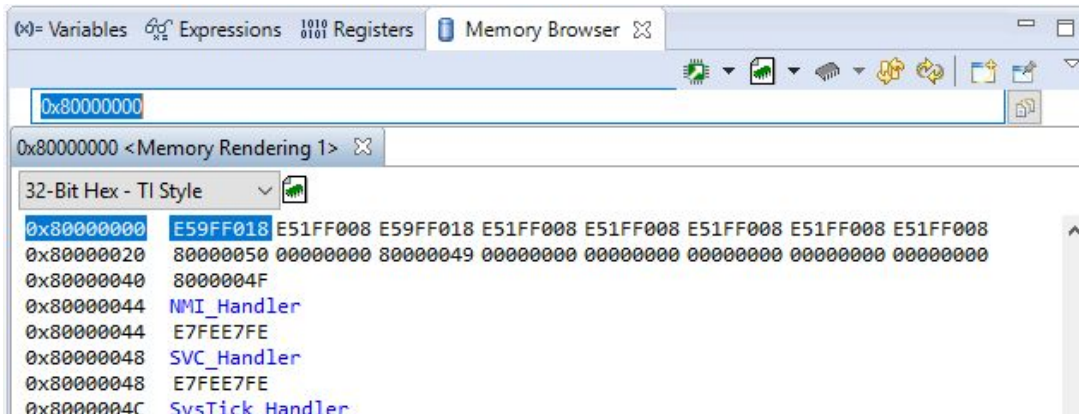

Figure 28 : Memory Content for a given memory address
- If you are tired of single stepping to the first instruction of your program every time, you can set a breakpoint at the first instruction and click **Resume**  Alternatively, you can directly set the execution to start at the first instruction of your program by simply inserting **_start** at the right place in the linker setup. To do this, right click on the project, select Properties, and in the Project properties, Under GNU Linker, Basic, enter the label **_start** at Set starting address option as shown in Figure 28. Then, after you load your program, you will see that the execution is set to start at the first line of your program instead of in the startup program.